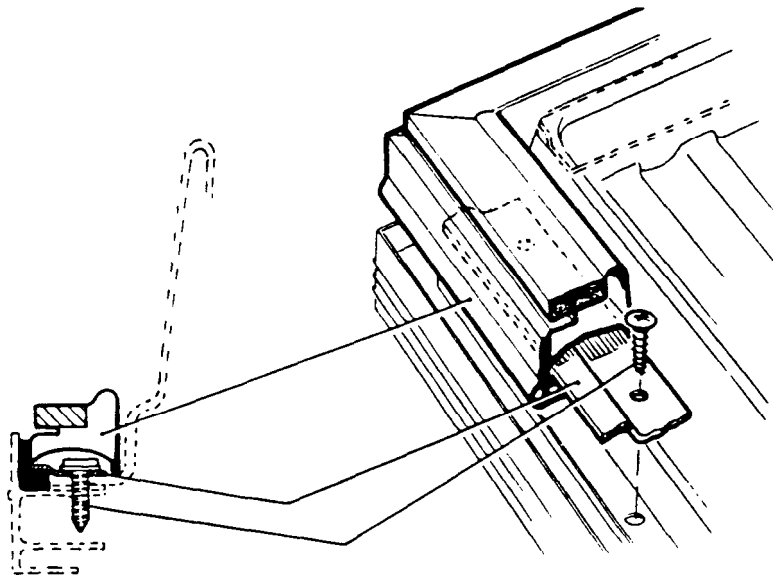

Fig. 21
4. Fit the sealing gasket as shown in the figure 21.